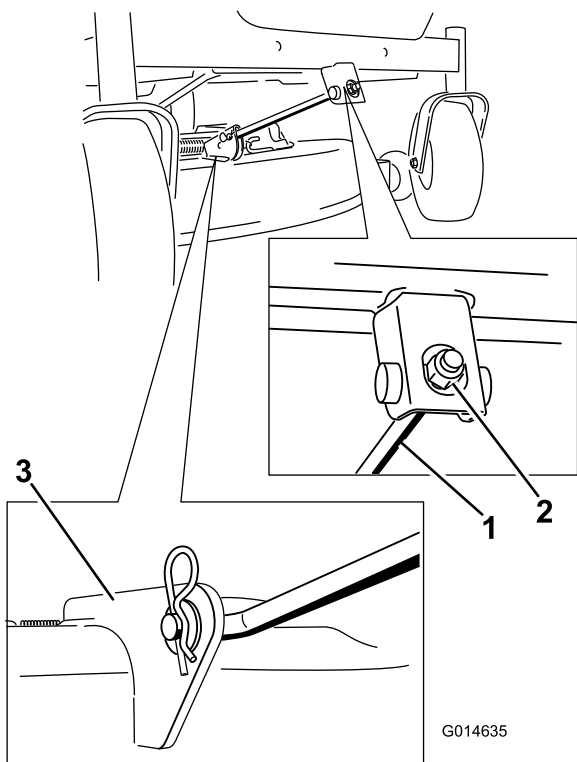

Figure 61
- A. Remove the hairpin cotter and washer from the front support rod and remove the rod from the deck bracket (Figure 61). Carefully lower the front of the mower deck to the ground.